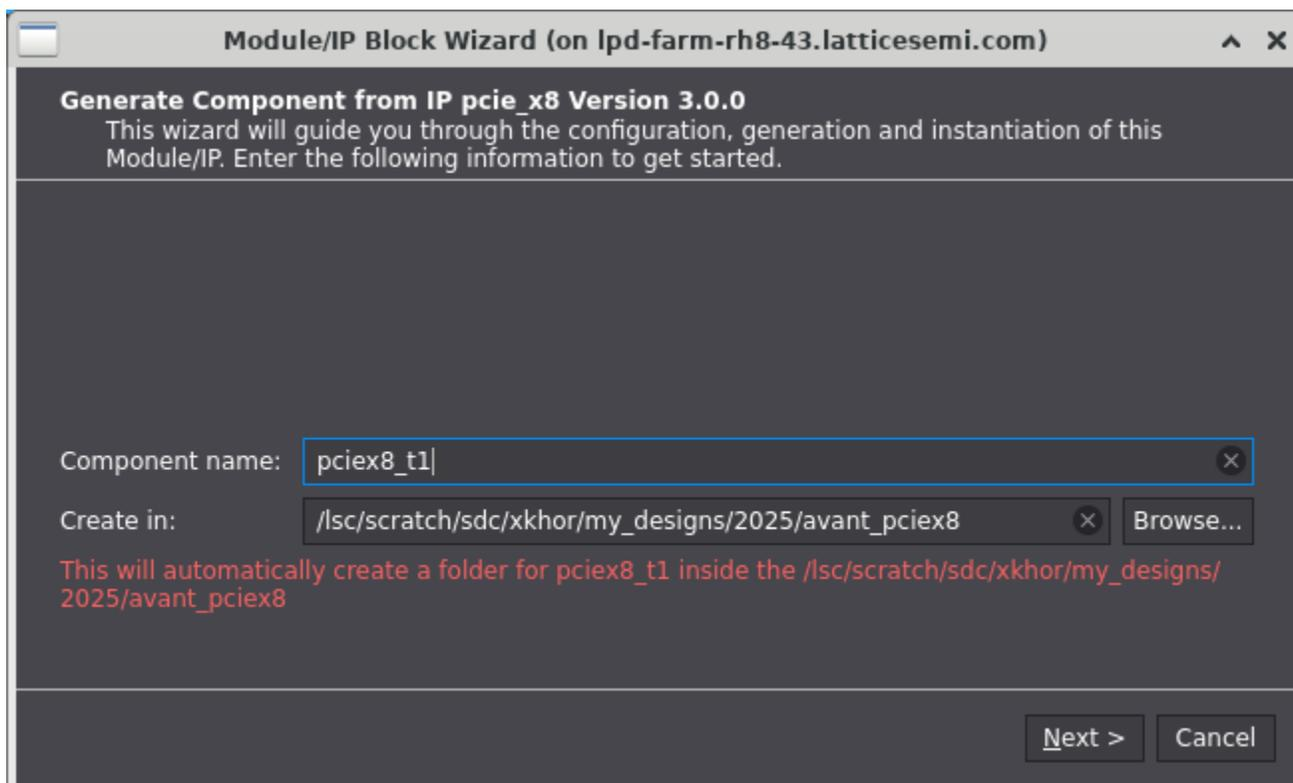

Figure 7.1. Module/IP Block Wizard
2. In the **IP Catalog** tab, double-click **PCIe\_X8** under **IP, Connectivity** category. The **Module/IP Block Wizard** opens as shown in Figure 7.1. Enter values in the **Component name** and the **Create in** fields and click **Next**.
5. Click **Finish**. All the generated files are placed under the directory paths in the **Create in** and the **Component name** fields shown in Figure 7.1.